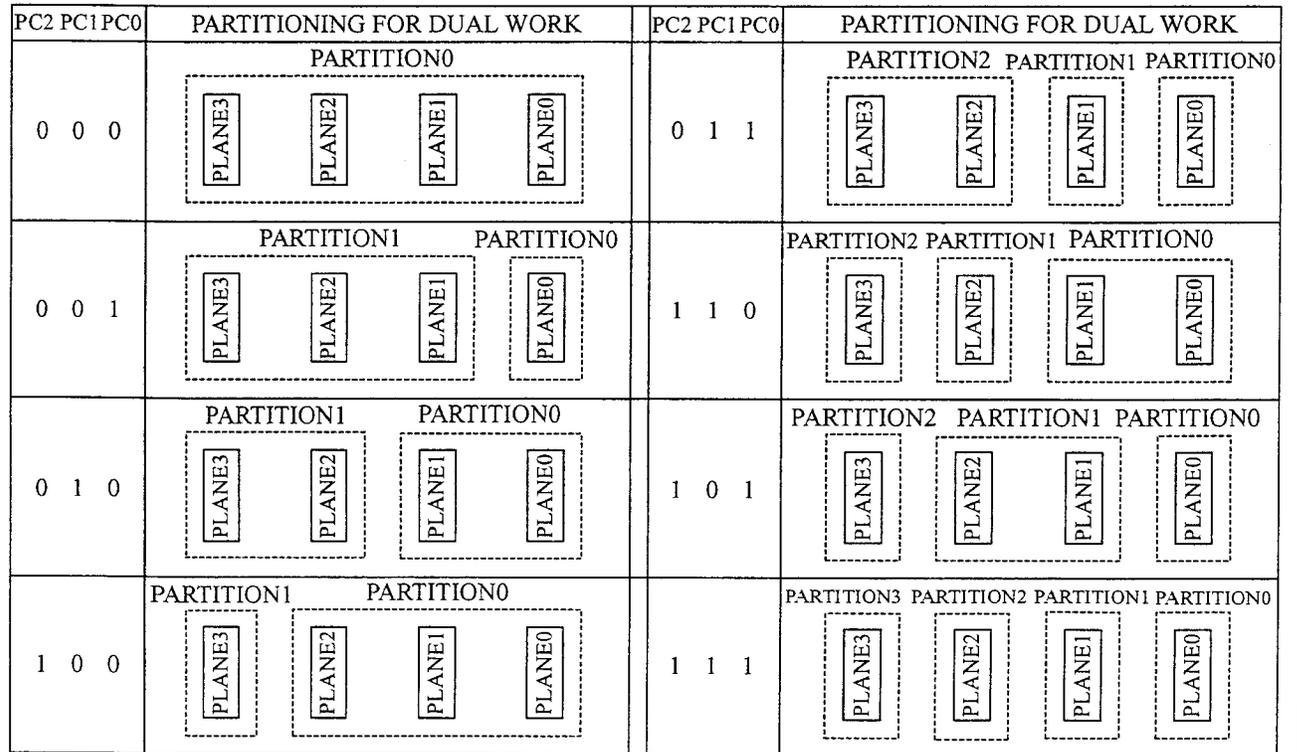

Figure 4. Partition Configuration
| <p>PCR.15-11 = RESERVED FOR FUTURE ENHANCEMENTS (R)</p> <p>PCR.10-8 = PARTITION CONFIGURATION (PC2-0)</p> <p>000 = No partitioning. Dual Work is not allowed.</p> <p>001 = Plane1-3 are merged into one partition. (default in a bottom parameter device)</p> <p>010 = Plane 0-1 and Plane2-3 are merged into one partition respectively.</p> <p>100 = Plane 0-2 are merged into one partition. (default in a top parameter device)</p> <p>011 = Plane 2-3 are merged into one partition. There are three partitions in this configuration. Dual work operation is available between any two partitions.</p> <p>110 = Plane 0-1 are merged into one partition. There are three partitions in this configuration. Dual work operation is available between any two partitions.</p> <p>101 = Plane 1-2 are merged into one partition. There are three partitions in this configuration. Dual work operation is available between any two partitions.</p> | <p>111 = There are four partitions in this configuration. Each plane corresponds to each partition respectively. Dual work operation is available between any two partitions.</p> <p>PCR.7-0 = RESERVED FOR FUTURE ENHANCEMENTS (R)</p> <p>NOTES:</p> <p>After power-up or device reset, PCR10-8 (PC2-0) is set to "001" in a bottom parameter device and "100" in a top parameter device.</p> <p>See Figure 4 for the detail on partition configuration.</p> <p>PCR.15-11 and PCR.7-0 are reserved for future use and should be masked out when polling the partition configuration register.</p> |